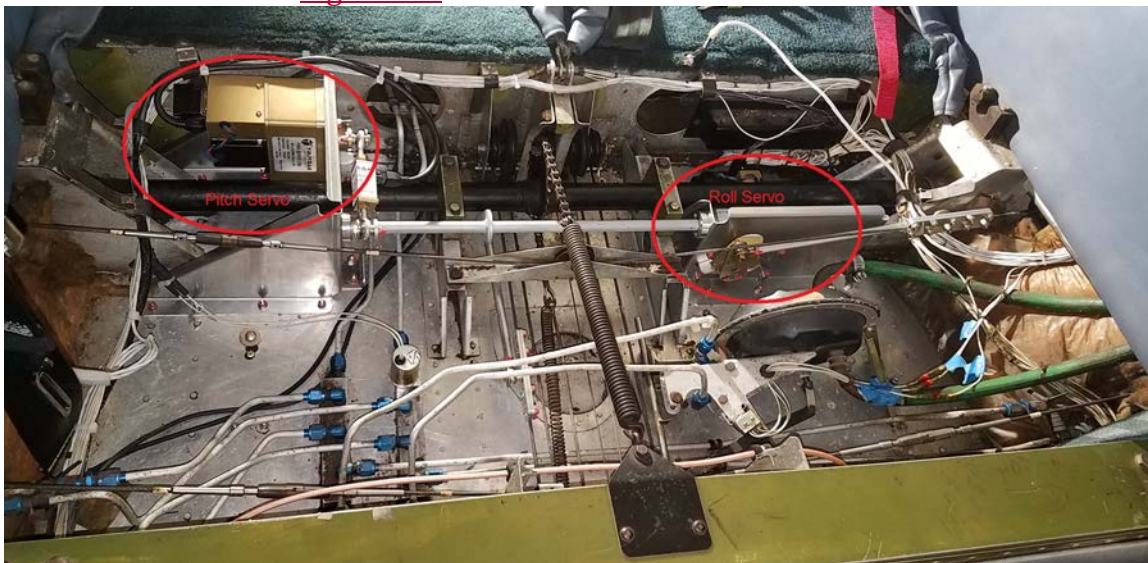

Figure 2-1
1. The pitch and roll servos will be mounted to the lower fuselage skin under the rear seat as shown in Figure 2-1.